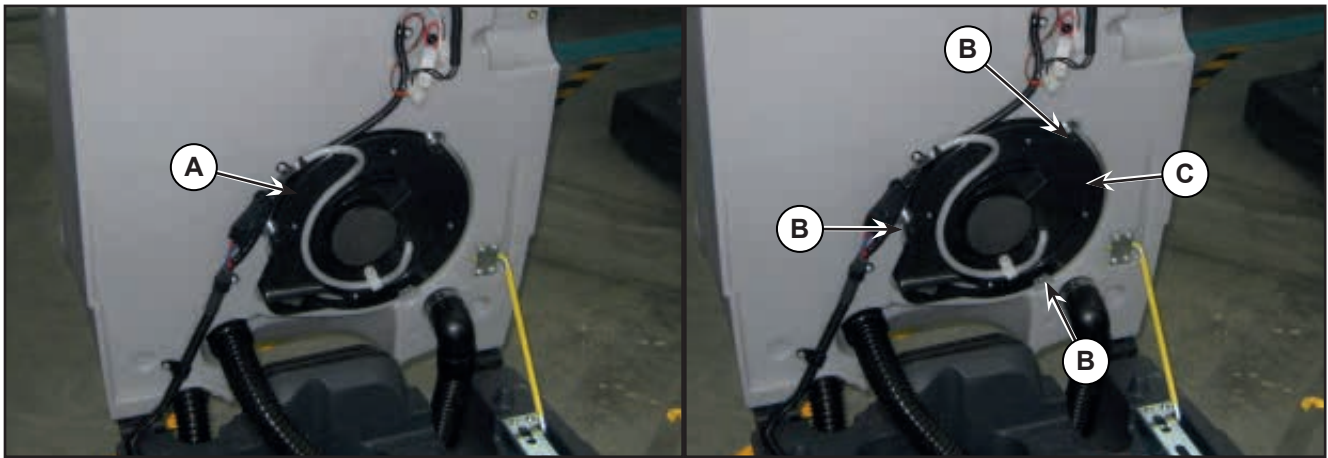

Figure 6:
4. Disconnect the connector (A) (Figure 6) and remove the fastening clamp.
5. Unscrew the 3 screws (B) and remove the vacuum system motor unit (C).